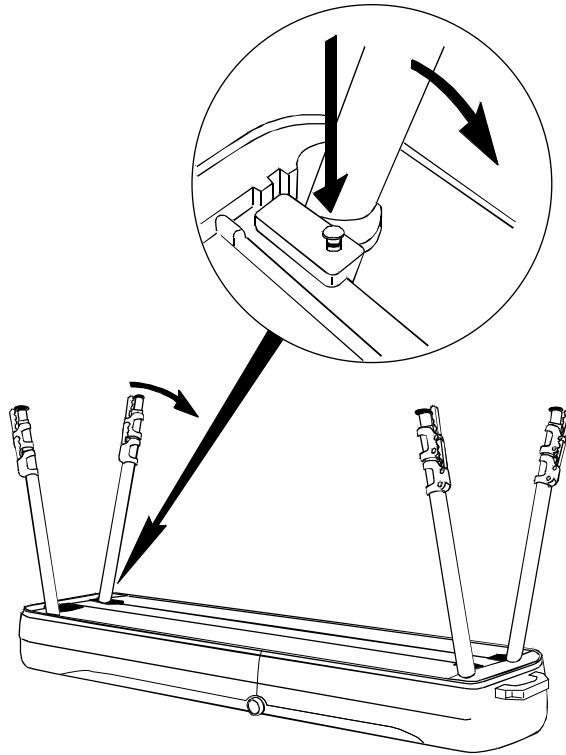

Fig 14
- 9 Select a leg and press the leg release button. Holding a blue handle, fold the leg down and clip it into the leg clip (Fig 14).